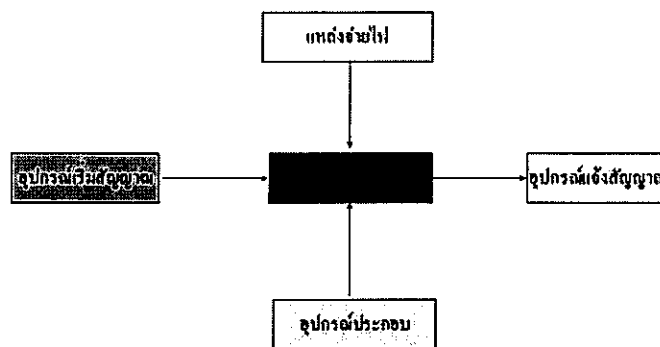

Figure 6: Diagram showing the control of Fire safety system
- (1) Photoelectric smoke detector or fire detection device at a height of 12 meters and must be able to work in a Class 100000 Clean Room according to the standards of the Ministry of Industry or its equivalent.
- (2) There must be installations of CO₂ fire extinguisher or sprinkler or fire horse or handheld fire extinguisher according to the standards of the Ministry of Industry or its equivalent.
- (3) There must be an audible alarm.
- (4) There must be a control unit system for controlling all devices (example in Figure 6).